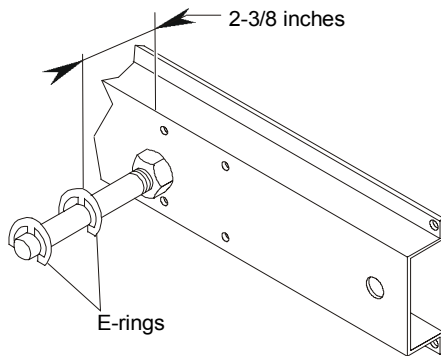

Figure 9: Mounting Distance
3. Verify that the distance from the E-ring in the center groove is approximately 2-3/8 inches from the surface of the universal mounting bracket, as shown in Figure 9.